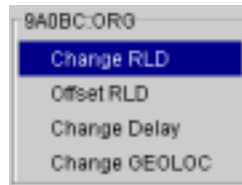

Figure 5.48 Lozenge Commands
4. Right-click the node of the RLN that is having its RLD changed. (Right-clicking the actual RLN ID opens a different window. See the section called Change Field Command.) A menu of lozenge commands for the corresponding node opens, and the Change RLD command is highlighted (Figure 5.48).